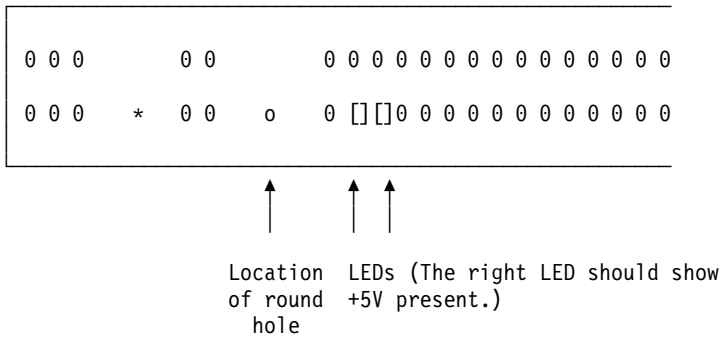

Figure 12. Round Hole Location On Back of Supply
Is the left LED lite on? (See Figure 12 on page 402).
- 3) Insert the tool into this round hole only to push the button within the supply (see Figure 12). Hold the button in. (The right LED indicates +5V present.)